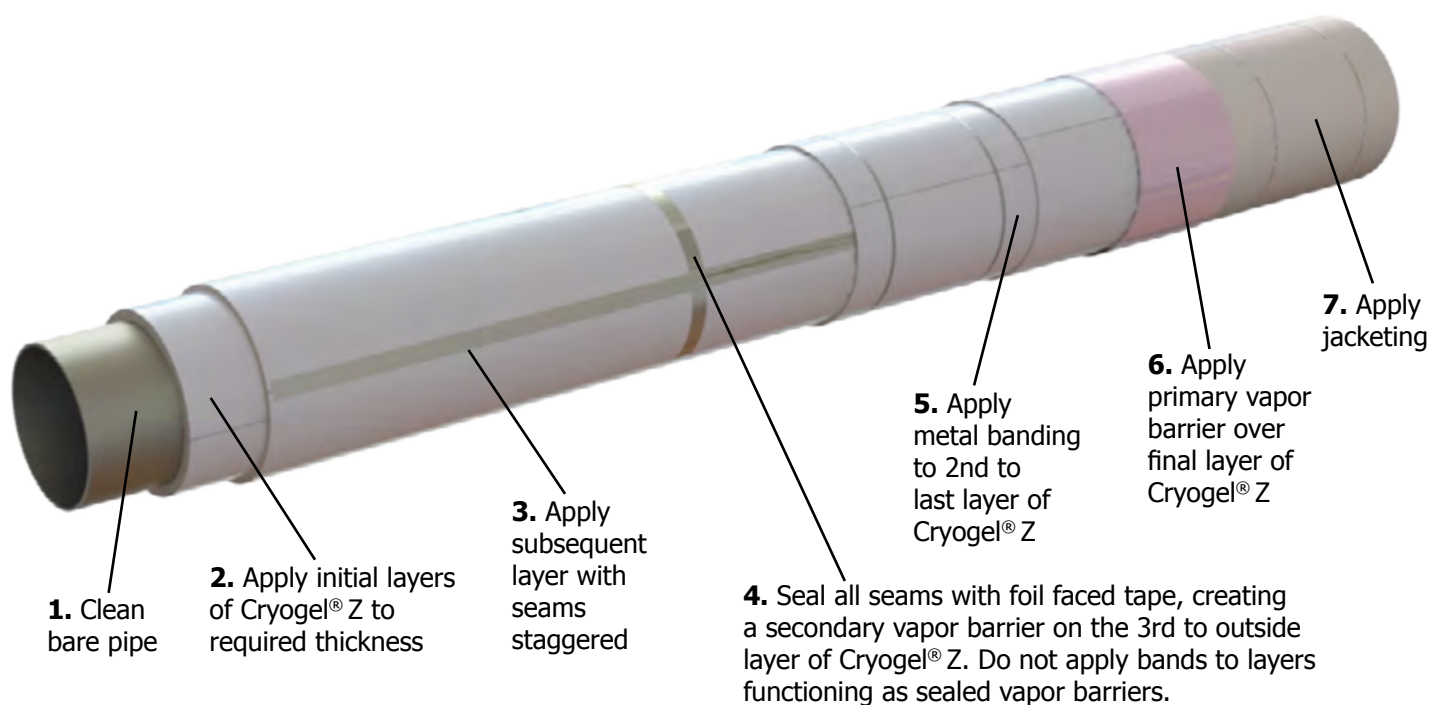

Figure 1.
- For piping or equipment operating below -40°C (-40°F), install a secondary vapor barrier two layers beneath the primary vapor barrier by sealing all seams of the Cryogel® Z with foil faced tape (see Figures 1 and 2).